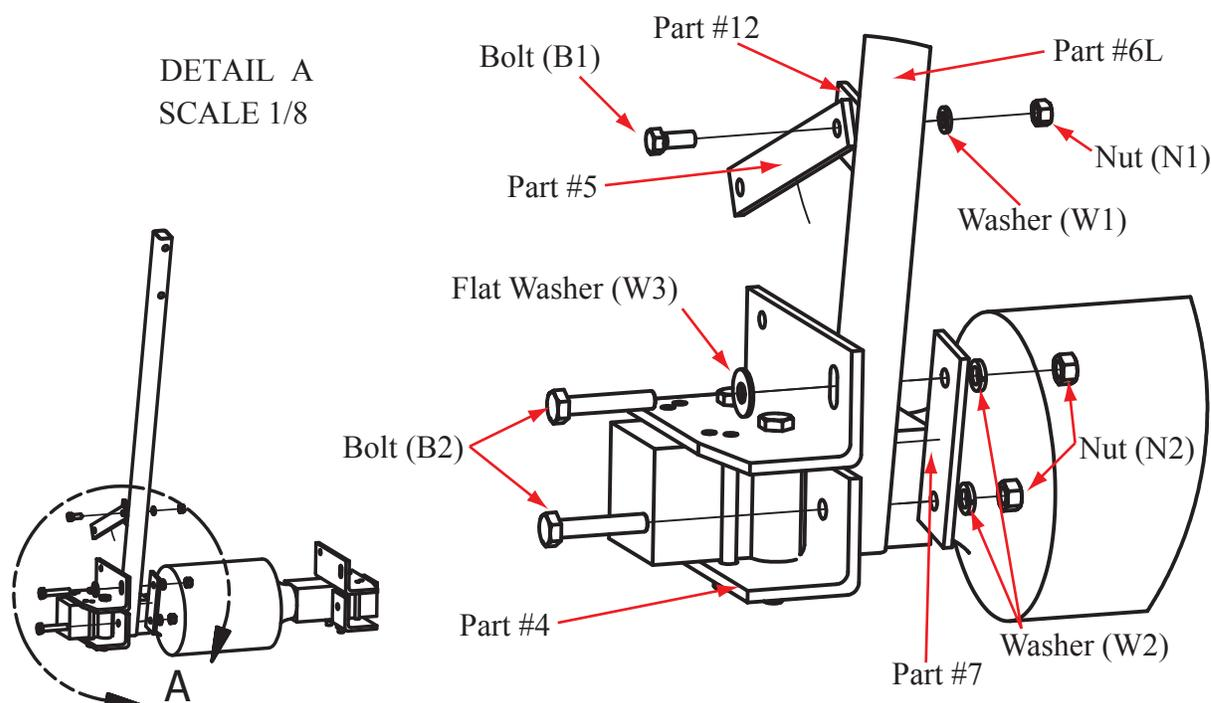

Figure 3
Step 5. Insert bolt (B1) into the vertical tube bolted brace (#5) and the vertical tube welded brace (#12), use lock washer (W1) and nut (N1) to create a snug fit. (Figure 3)
Step 6. Insert bolt (B2) through the bottom left bracket (#4). Slide the bottom hole of vertical tube (#6L) onto bolt (B2), then place backing plate (#7) onto bolt (B2), secure with lock washer (W2) and nut (N2), to create a snug fit. The welded brace (#12) [this is welded to part (#6L)] should be facing up and toward the axle bracket side as shown in Figure 3.
Step 7. Rotate the vertical tube (#6L) towards the front of the tractor insert bolt (B2) through flat washer (W3), the slotted opening in the left top axle bracket (#3), the corresponding hole in the vertical tube (#6L), and the backing plate (#7), secure with lock washer (W2) and nut (N2) to create a snug fit. (Figure 3)